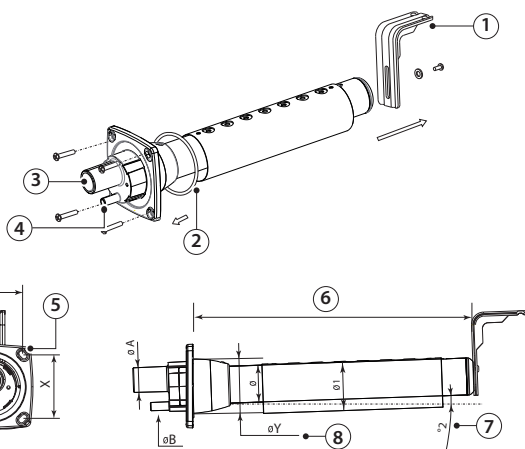

Fig. 3.b-1
2. the L-shaped supports (see element 1 Fig. 3. b) is supplied with steam distributors models from DP085\* to DP205\*. For shorter lengths the bracket can be supplied as optional (code 18C478A088).